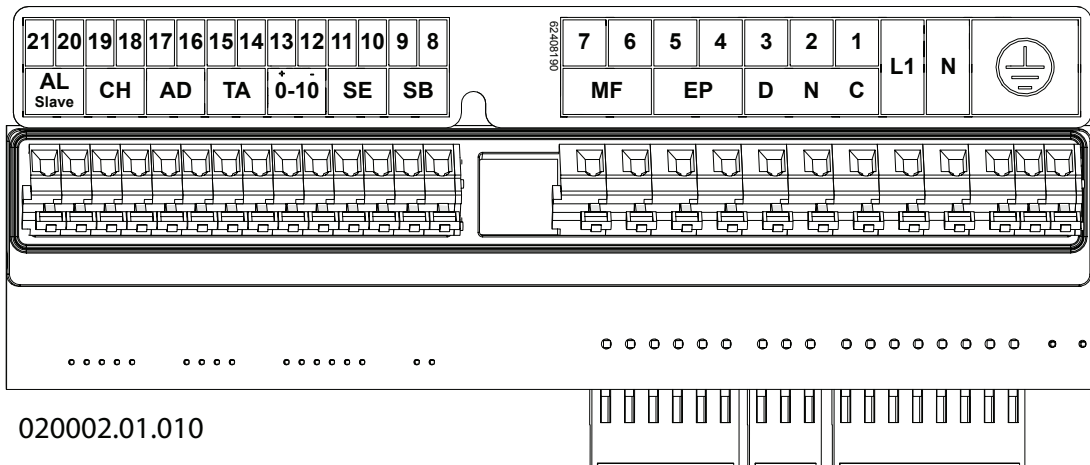

Figure 5-10 – Electrical connections
Figure 5-10 key
To connect the power supply cable proceed as follows (refer to Figure 5-10):
In order to connect the remote control cable, proceed as follows (refer to Figure 5-10):
- 3.- Connect the 2 cable ends to boiler terminals "14" and "15" (TA) (see Figure 5-10);
- 6.- Connect a timer with a free contact that sets the turning on and off of the recirculation to terminals "14" and "15" in Figure 5-10.
Proceed as follows for the electric connections (refer to Figure 5-10):